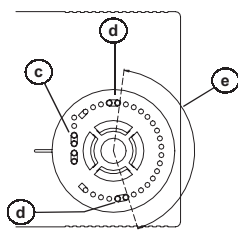

Fig. 2: Mechanical pins positioning.
2. Pick up the plastic pins (c) parked at one side of the knob area and set them (d) as in the example of Fig. 2. In this example the rotation range (e) is reduced as in the shown angle.